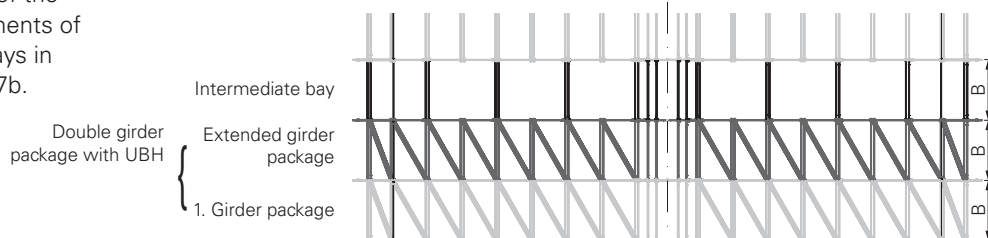

Fig. B1.07b
- double girder package (Fig. B1.07b)